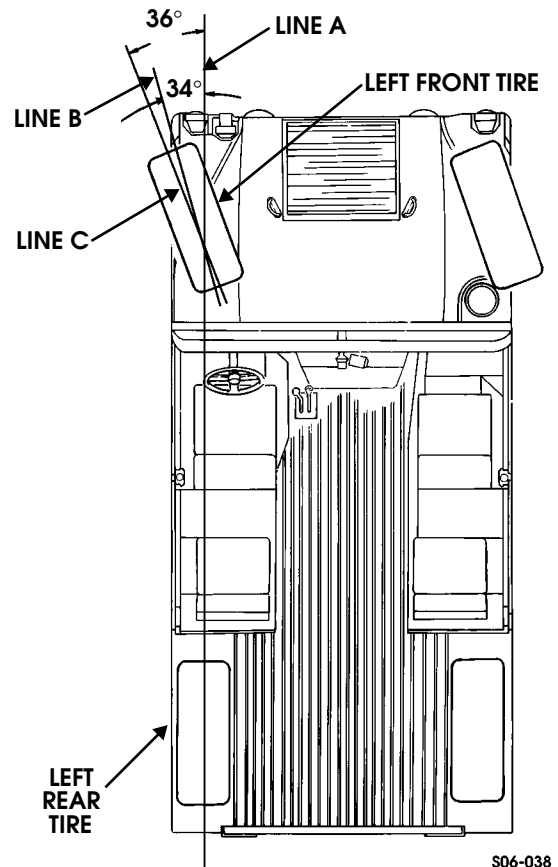

Figure 8-23: Checking Alignment
1. Draw a reference chalk line 30 feet long. Mark this line A (Figure 8-23).